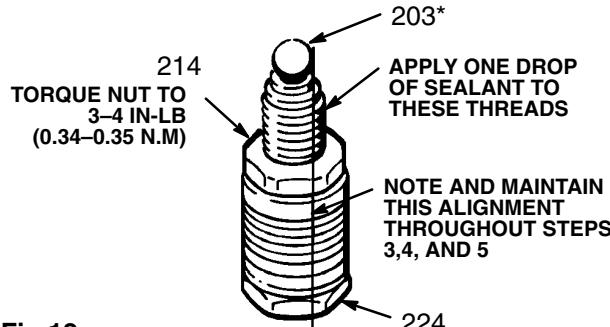

Fig 12
2. Tighten the packing retaining nut (214) onto the piston valve (224) and torque to 3–4 in-lb (0.34 – 0.35 N.m). See Fig 12.
**NOTE: NOTE THE ALIGNMENT** of the piston (224) to the nut (214). Maintain this alignment throughout Steps 2, 3 and 4.
3. Apply 1 drop only of sealant, supplied with the repair kit, to the piston valve threads. Place the small ball (203\*) on the valve. See Fig 12. Hand tighten the valve into the rod (223) just until the nut contacts the rod. Place the flats of the displacement rod in a vise.